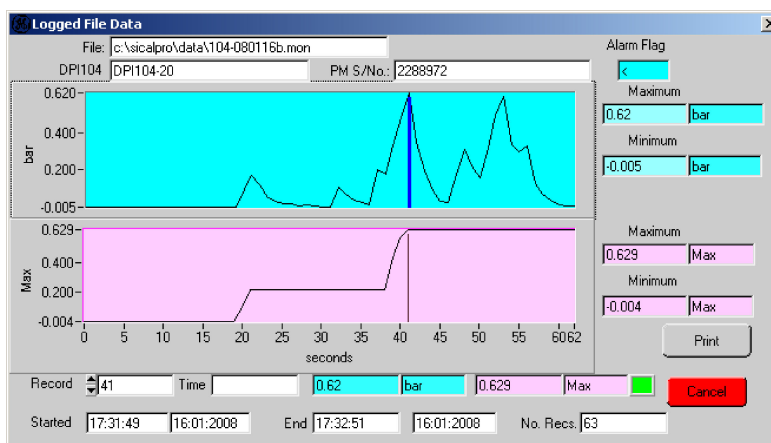

Figure 5-3: Example display - Graphical view
- *View (Graphical)* shows the specified instrument file in a two-graph window format that includes all the records (See Figure 5-3).